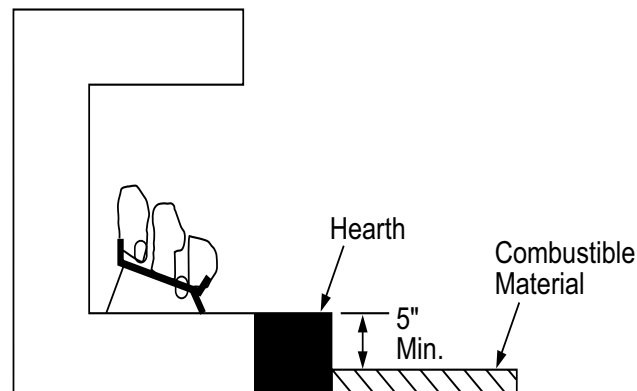

Figure 7 - Minimum Fireplace Clearances Above Combustible Flooring
- If combustible materials are less than 14" to the fireplace, you must install appliance at least 5" above the combustible flooring (see **Figure 7**).